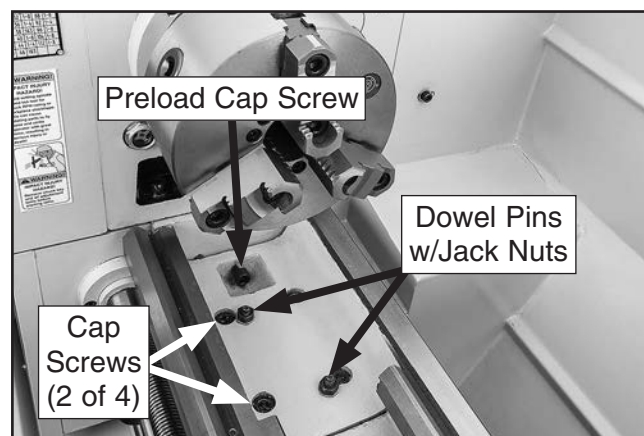

Figure 139. Gap insert retaining fasteners.
2. Remove four cap screws that secure gap insert to bed (see **Figure 139**).
3. Tighten dowel-pin jack nuts (see **Figure 139**) to draw pins from gap insert.
4. Loosen preload cap screw (see **Figure 139**) a few turns until it no longer contacts head-stock.
3. Back off dowel pin jack nuts (see **Figure 139** on **Page 82**) until they are flush with ends of pins, then drop pins into pin holes in gap insert.